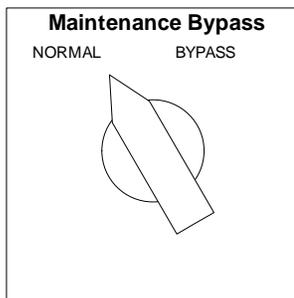
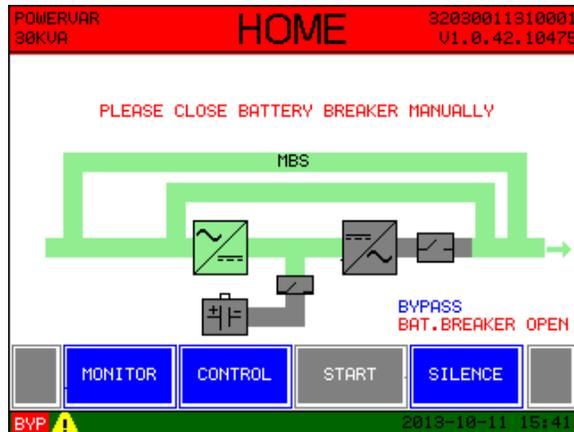
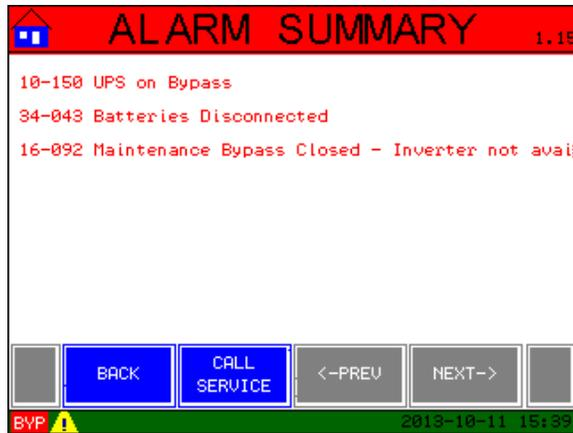

Fig. 4-29
Fig. 4-30
Fig. 4-31
Step 3: Rotate the **Maintenance Bypass** Switch to the “bypass” position (Fig. 4-29). The maintenance bypass path will now appear (Fig 4-30). An Alarm will appear to indicate this state (Fig 4-31).